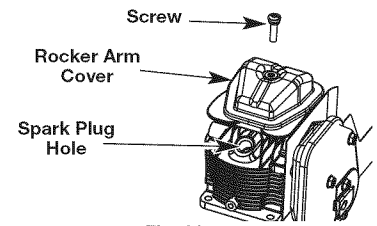

Fig. 31
- Clean dirt from around the rocker arm cover. Remove the screw holding the rocker arm cover with a large flat blade screwdriver or Torx T-25 bit (Fig. 31). Remove the rocker arm cover and gasket.
- The piston is at the top of its travel. This should be done by looking into the spark plug hole. (Fig. 31)